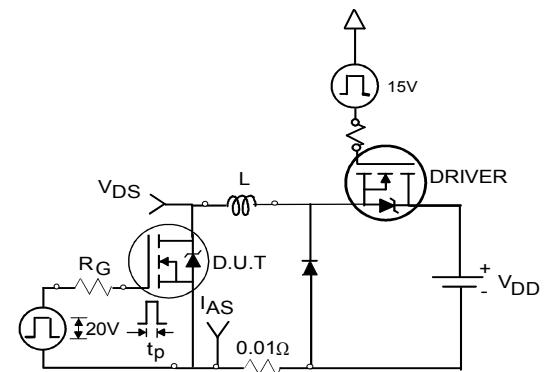

Fig 16b. Unclamped Inductive Test Circuit
- ⑤ Limited by $T_{J\text{max}}$, see Fig. 16b, 16c, 19, 20 for typical repetitive avalanche performance.
3. Equation below based on circuit and waveforms shown in Figures 16b, 16c.